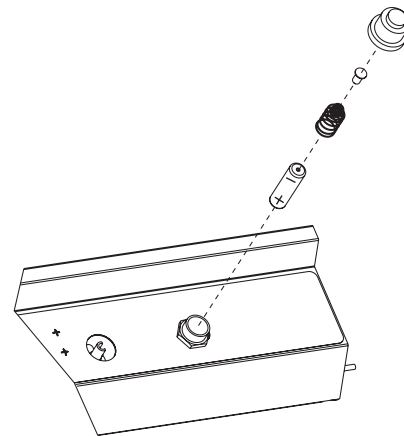

Figure 31
7. Re-attach the ignitor to the control panel, then tighten nut and insert AA battery, positive side down, and replace ignitor button. See Figure 31.
10. R3B models only: Place the briquet rack over the blue flame burner only. **See Figure 31.**